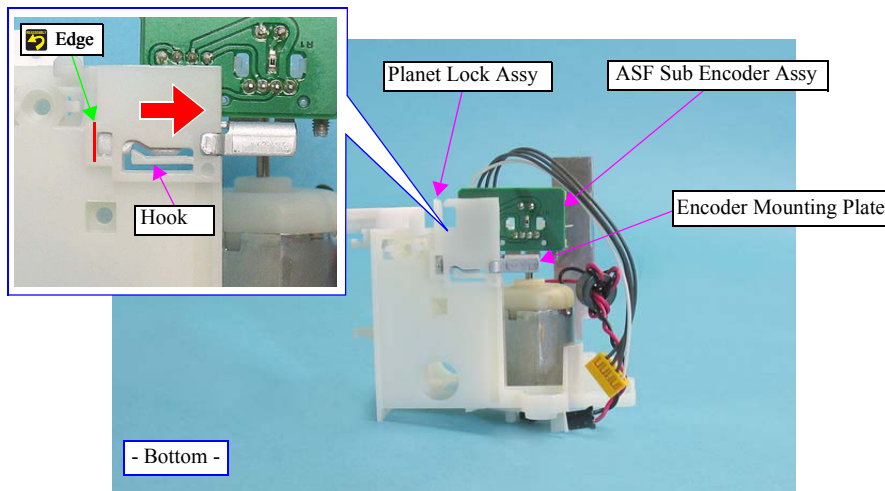

Figure 4-169. Removing the ASF Sub Encoder (1)
- When installing the ASF Sub Encoder Assy to the Planet Lock Assy, note the following points referring to Figure.4-169.